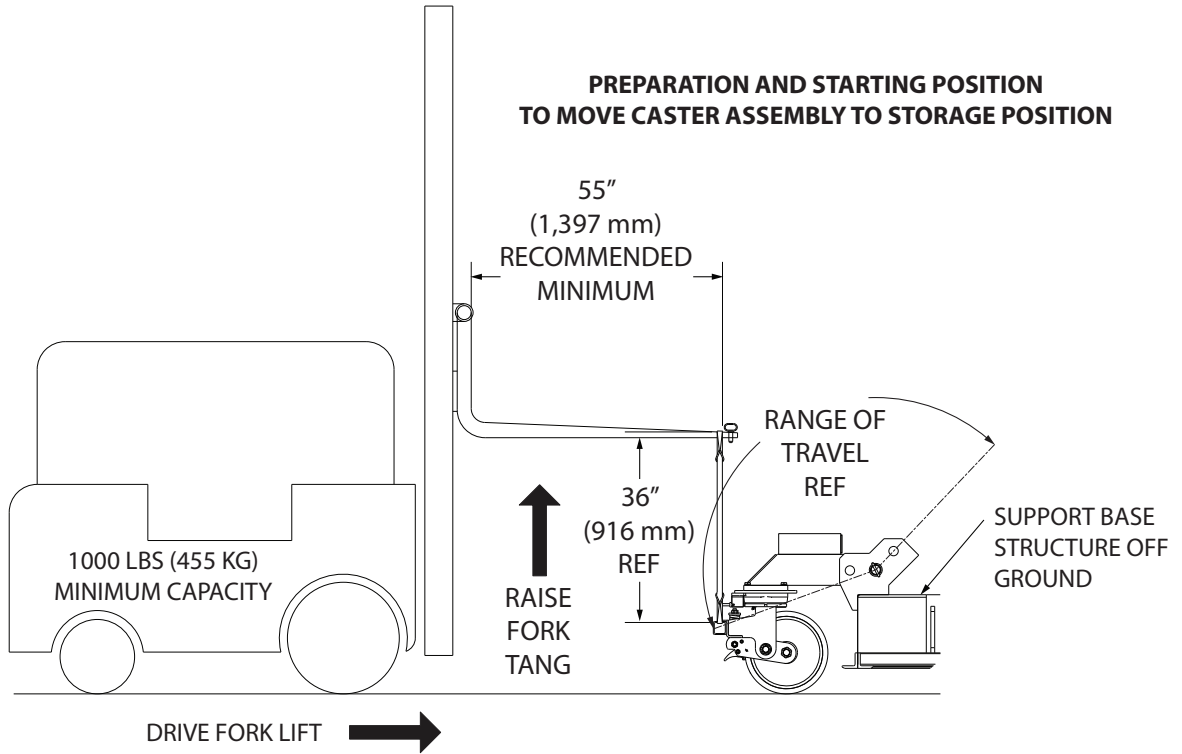

Figure 5.7-1
1. Rotate the caster so the steering socket is positioned away from the stand for accessibility. Attach a suitable chocker style web sling with a minimum 1,000 lbs (455 kg) through the tube socket and connect to and overhead crane or forklift as shown in Figure 5.7-1.
There are four (4) hydraulically operated jack legs located at the four corners of the base (Figure 5.7.1). These legs are used to support the stand while positioning the casters and also to level and stabilize the stand as required during bootstrap procedures. A manual hydraulic pump is secured to the base and is connected to the jack legs through rigid mounted tubing and hose assemblies. Ball valves located near the pump are used to separate the FWD jack legs from the AFT jack legs. The system will raise the stand approximately 9.5” off the ground. It is recommended that the stand be raised slowly, alternating front to rear legs 3” at a time.